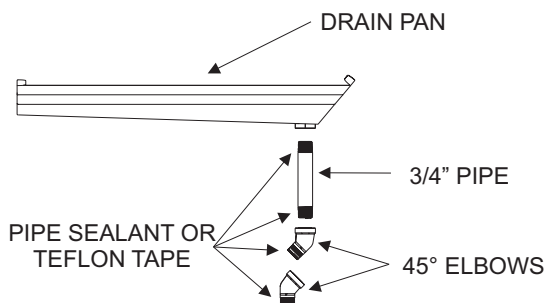

Figure 23
3. Assemble the two 45° elbows as shown in Figure 23.